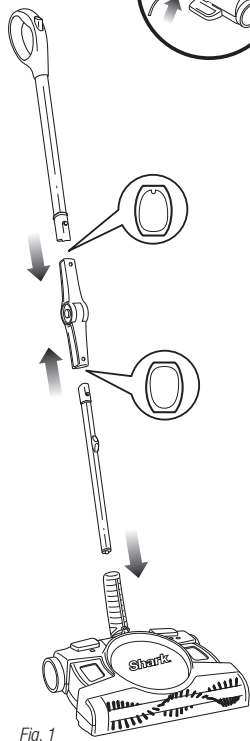

Fig. 1
- 1 Assemble the upper and lower handle into the elbow joint to form the Shark® Backsaver™ folding handle. Then insert it into the base of your cordless floor and carpet sweeper. (fig. 1)